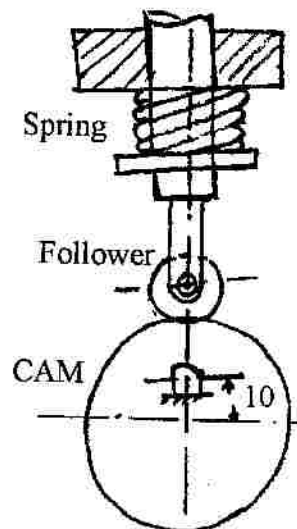

Figure 4.1
4. (a) An eccentric cam, 10 cm in diameter, rotates with an eccentricity of 10 mm as shown in figure 4.1. The roller follower is held against the cam by means by a helical-compression spring, the force between the cam and the follower varies from 100 N at the lowest position to 350 N at the highest position of the follower. Design the spring from static consideration and determine the factor of safety for fatigue considerations. Neglect the effect of inertia forces.